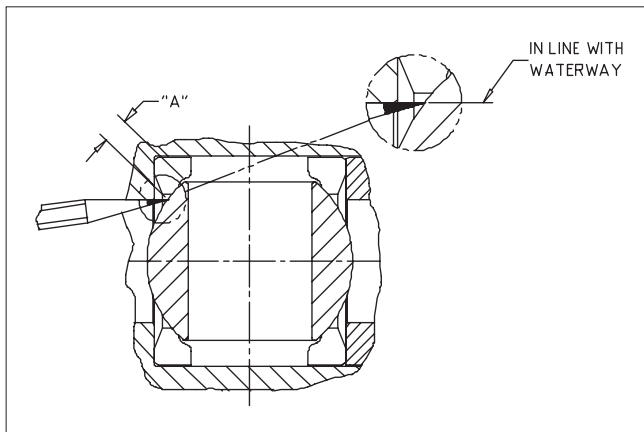

Figure 17. Correct Ball Position
**Valve Close Position:** With the valve in the closed position (actuator is against the "CLOSE" travel stop), make a pencil mark on the ball at the 9:00 o'clock and 3:00 o'clock locations as shown in (Figure 17). Open the valve part way, and measure dimension "A". This measurement should deviate no more than  $\pm 1/16$  inch ( $\pm 1.6$  mm) from the value given in (Table 9) for all valves.